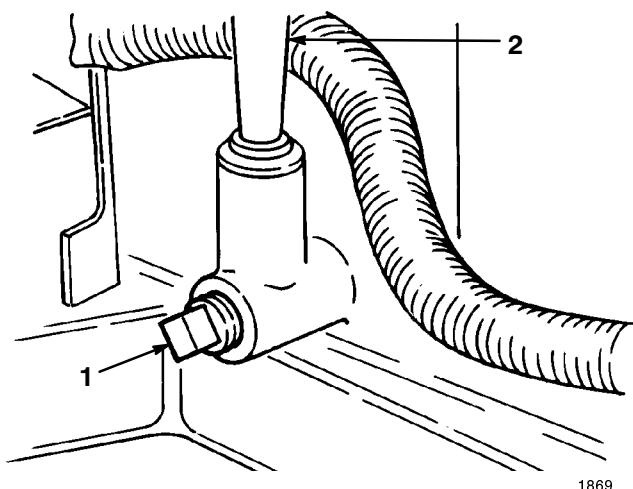

Figure 31
4. Place a pan below the oil dipstick/fill tube and remove the drain plug (Fig. 31).